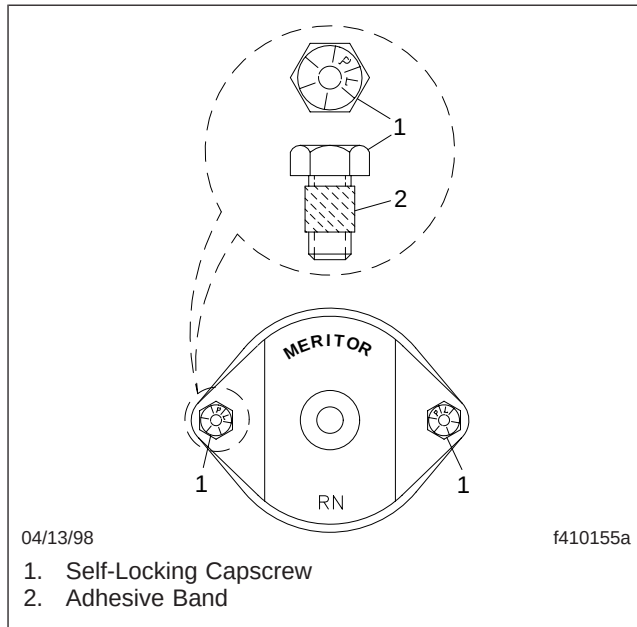

Fig. 10, Meritor U-Joint Fasteners for Full-Round Yokes
- 4.4 Install *new* bearing-cup-plate self-locking capscrews. See Fig. 10. Tighten the capscrews until all the parts are drawn down tight, with no gaps; do not tighten the capscrews to their final torque value.